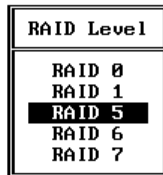

Figure 2-22. Selecting the RAID Level
3. The **RAID Level** selection menu pops up (Figure 2-22). Use the cursor keys to select a RAID level appropriate for the drive group. The cursor will only move to a valid RAID level allowed by the number of drives in the selected group. The number of drives in a drive group is also known as the stripe width of the drive group. Press the **Enter** key to select the RAID level for this system drive. Table 2-4 presents the minimum number of drives necessary to support each RAID level: